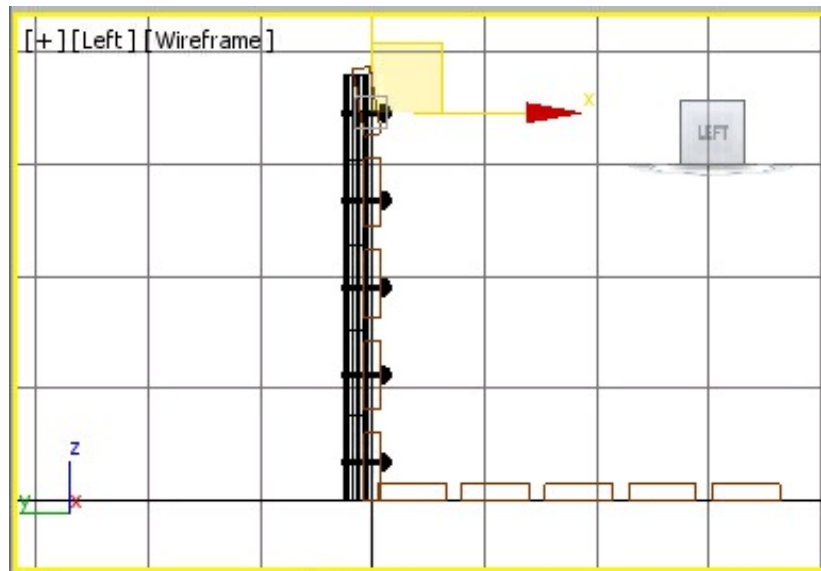

Figure 2-81 Alignment of rivets in the Left viewport
4. In the Left viewport, select *rivet001* using the **Select and Move** tool and move the cursor over the vertical axis. Now, create 4 copies of *rivet001*. These copies are automatically named as *rivet002*, *rivet003*, *rivet004*, and *rivet005*. Align them in the Left viewport, refer to Figure 2-81.